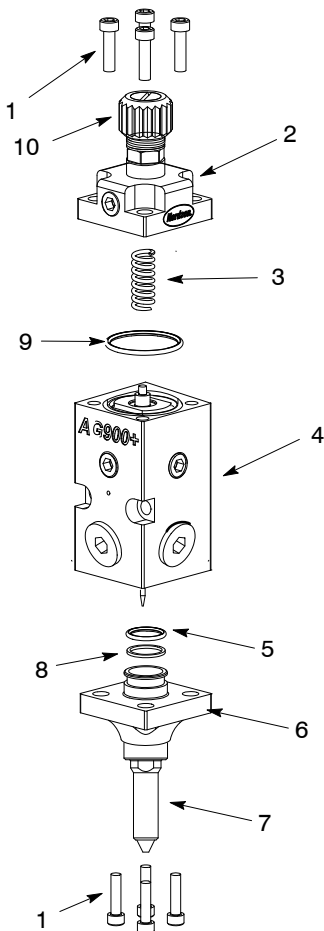

Figure 17: AG-900+/AG900+S Applicator Assembly
3. See Figure 17. Remove the four socket head screws (1), from the air cap (2) and then lift the cap and spring (3) free of the applicator module.